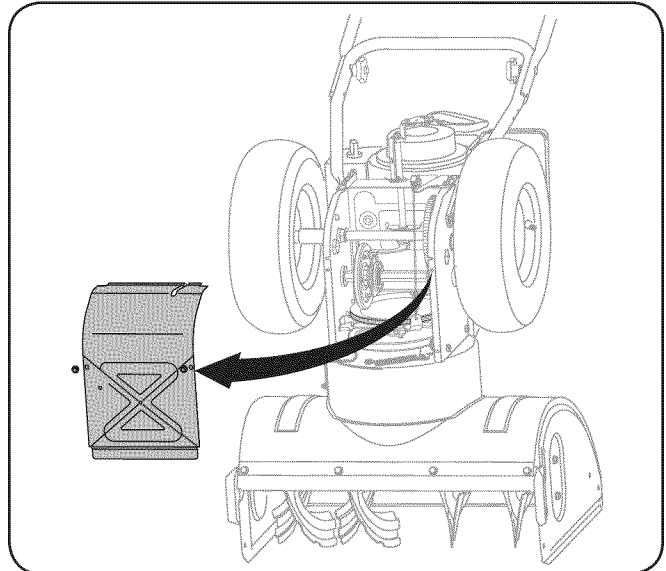

Figure 8-3
5. Remove the frame cover from the underside of the snow thrower by removing the self-tapping screws which secure it. See Fig. 8-3.
5. Remove the frame cover from the underside of the snow thrower by removing the self-tapping screws which secure it. Refer to Fig. 8-3.